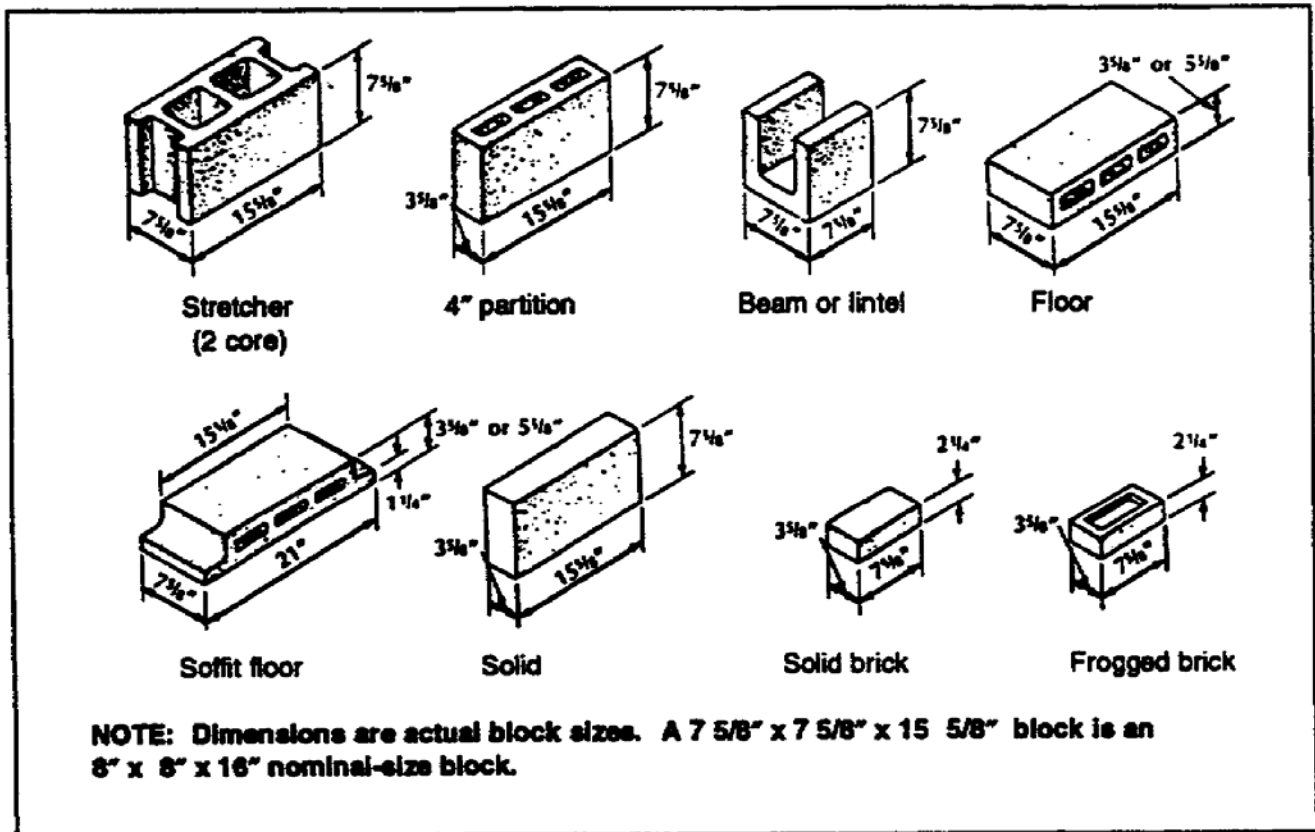

Figure 2-1. Types of concrete blocks
**2-4. Typical Sizes and Shapes.** Blocks come in both heavyweight and lightweight materials with full- and half-length sizes. The three-core block can also be obtained as two-core blocks. Figure 2-1, pages 2-3 and 2-4, illustrates some of the typical sizes and shapes of concrete blocks.